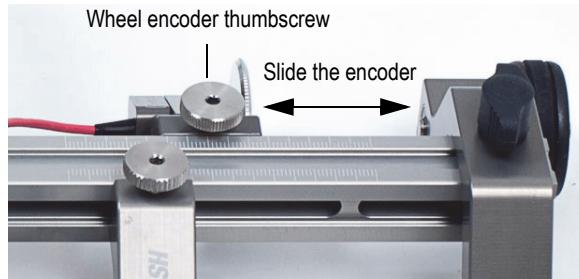

Figure 1-10 Positioning the wheel encoder
1. Loosen the wheel encoder thumbscrew (see Figure 1-10 on page 26).
2. Slide the wheel encoder to the desired position (see Figure 1-10 on page 26).